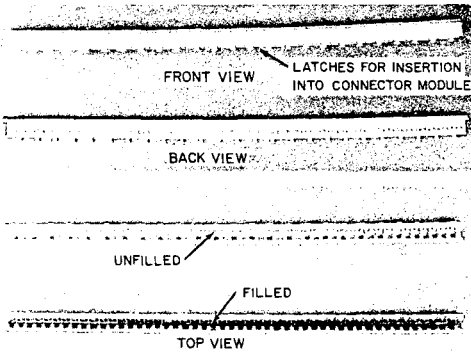

Fig. 5—Cap
- **Cap** (Fig. 5)—Provides the final wire retention when pressed onto connector bridge and half-tap module. The caps of connectors used on PIC cable are filled with encapsulant.